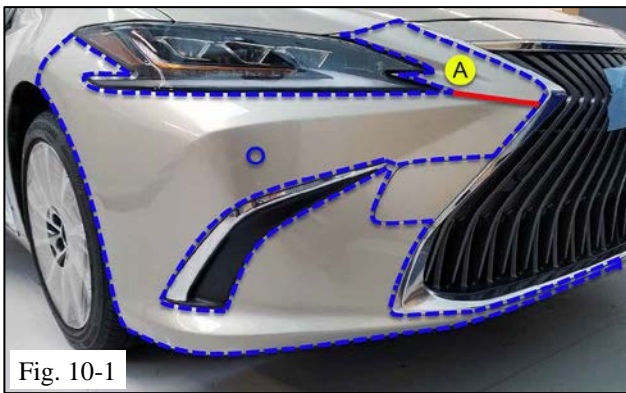

Fig. 10-1
- (a) Line the piece up within proper tolerance so that all edges are consistent. Tack the area down using upward and downward motions (Fig. 10-1).